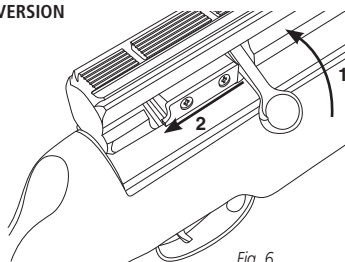
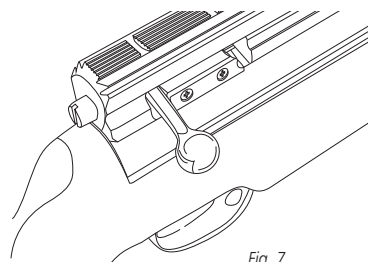

Fig. 6
Fig. 7
2. To fit the magazine on the air rifle; lift the cocking bolt, pull it backwards and lock it in the rear. (Fig. 6, Fig. 7).